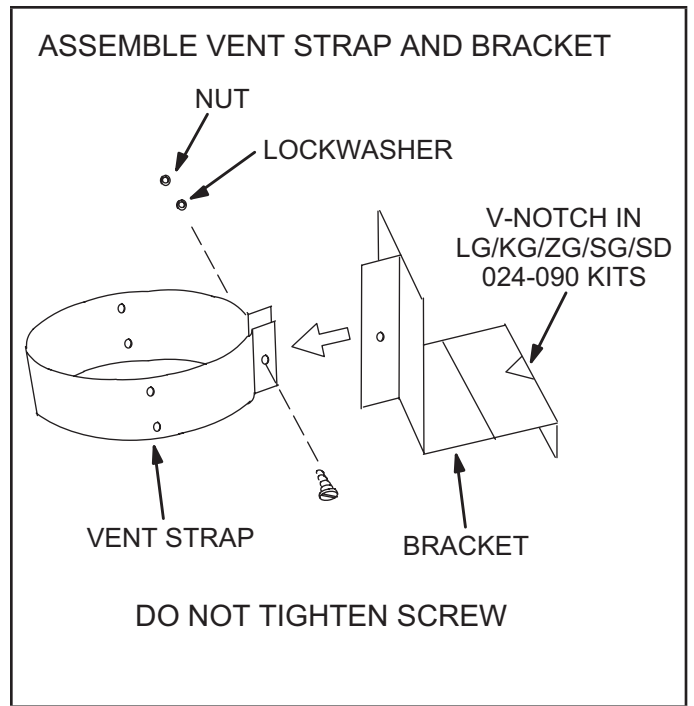
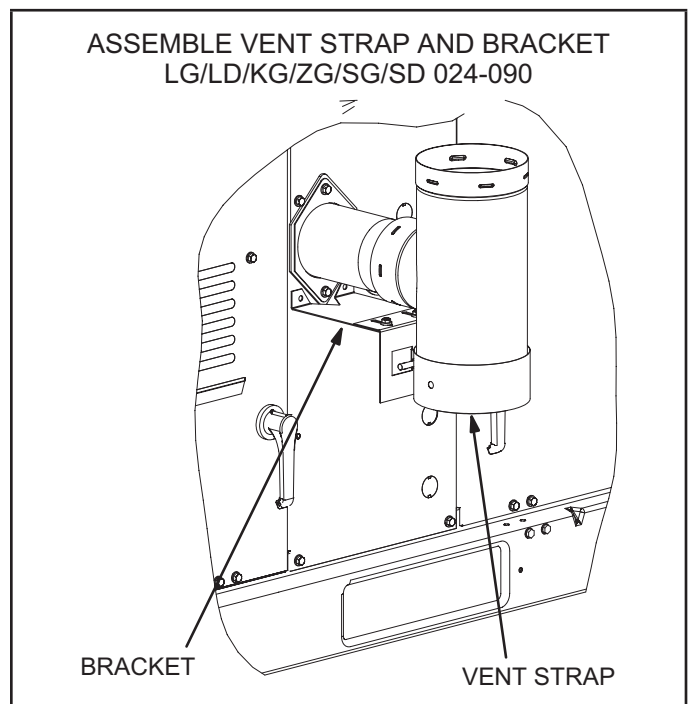

FIGURE 3
FIGURE 4
- 4 - Assemble the vent strap and bracket as shown in figure 3. Do not tighten screw. On LG/LD/KG/ZG/SG/SD 024-090 units, turn the bracket 180 degrees to allow clearance for the door handle. See figure 4.
- 9 - Assemble vent strap and bracket as shown in figure 3 without tightening screw.